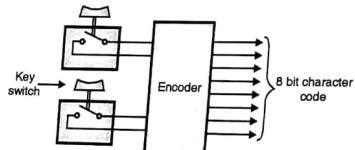

Fig. 9.1.1 : General operation of a keyboard
- The mechanism should send one and only proper code, when the key is pressed. Fig. 9.1.1 shows the general operation of a keyboard.